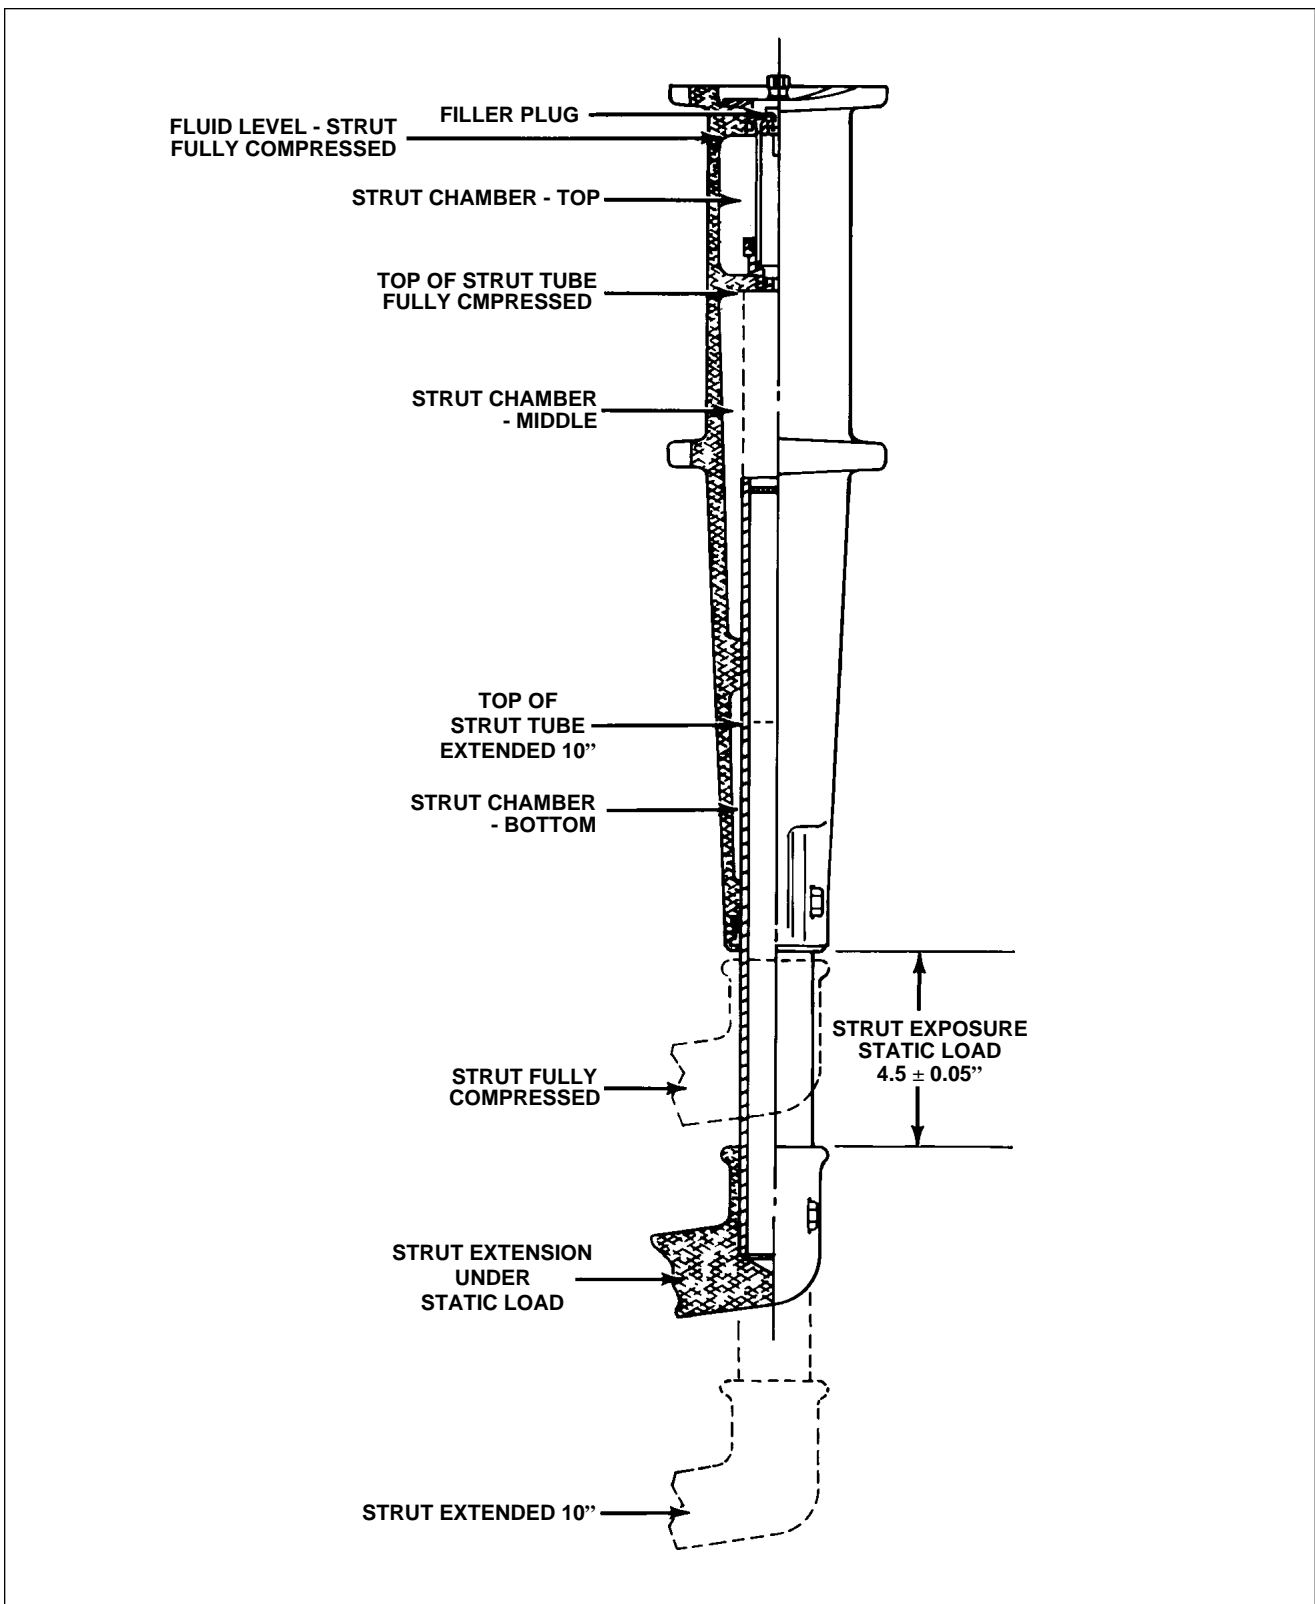

Figure 12-3. Main Gear Oleo Struts (cut-away view)
- (1) Method I.
3. Filling Main Gear Oleo Strut (Refer to Figure 12-3)